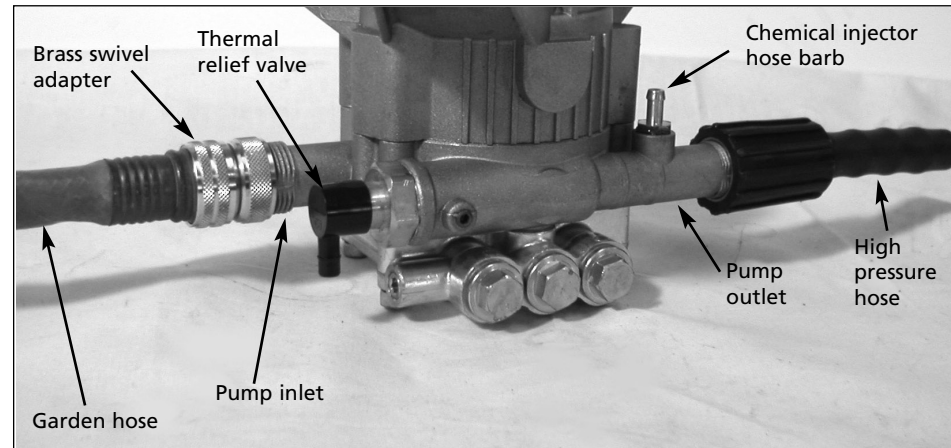
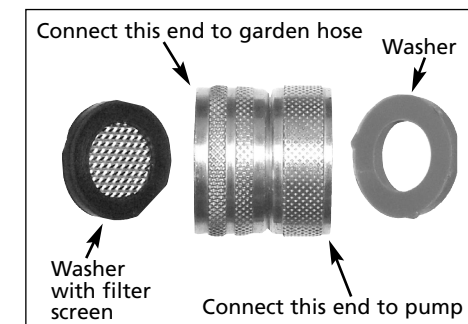
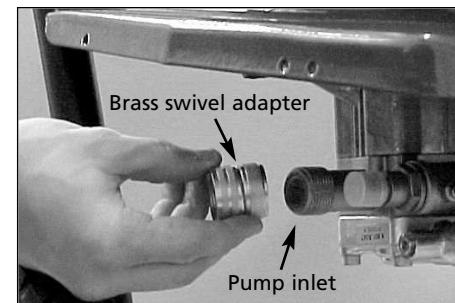

Figure 2 - Pump hook up
Figure 4 - Brass swivel adapter
Figure 5 - Connect the brass swivel to the pump
4. **Brass Swivel Adaptor** (See Figure 2). If it's not already attached to the pump inlet, assemble the brass swivel adapter and attach it to the pump inlet (See Figure 4 and Figure 5). Be sure to connect the correct side of the brass swivel adapter to the pump.
6. Connect the high pressure hose to the pump outlet (See Figures 2 and 6).